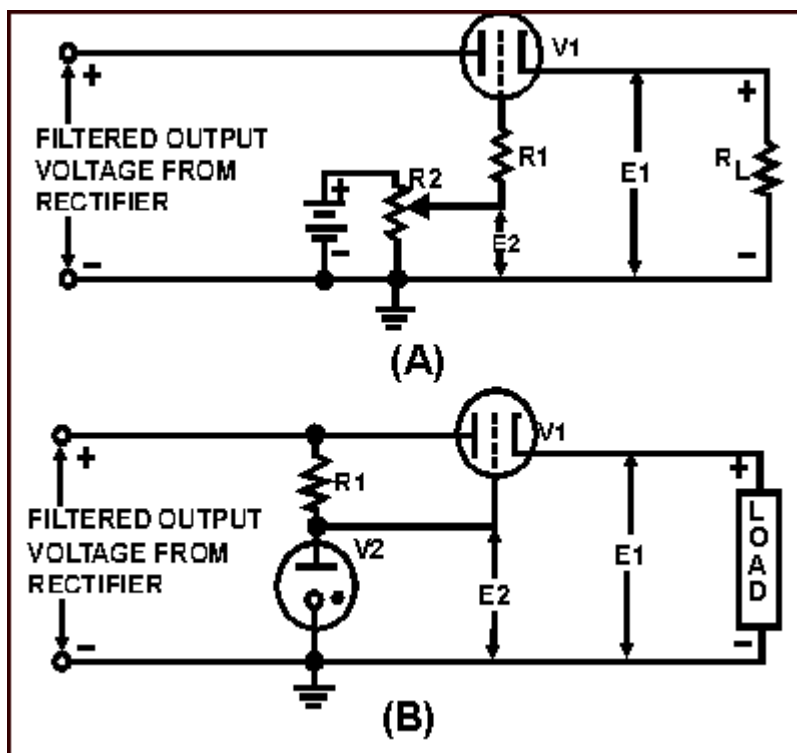

Figure 3-48.—Electron tube voltage regulator using a battery for the fixed bias
Refer to figure 3-48, view (A). The resistance of V1 is established initially by the bias on the tube. Assume that the voltage across the load is at the desired value. Then the cathode is positive with respect to ground by some voltage ( $E_L$ ). The grid can be made positive relative to ground by a voltage ( $E_2$ ) that is less than  $E_L$ . The potentiometer R2 is adjusted until the bias (grid-to-cathode voltage), which is  $E_2 - E_L$ , is sufficient to allow V1 to pass a current equal to the desired load current. With this bias, the resistance of V1 is established at the proper value to reduce the rectifier output voltage to the desired load voltage.